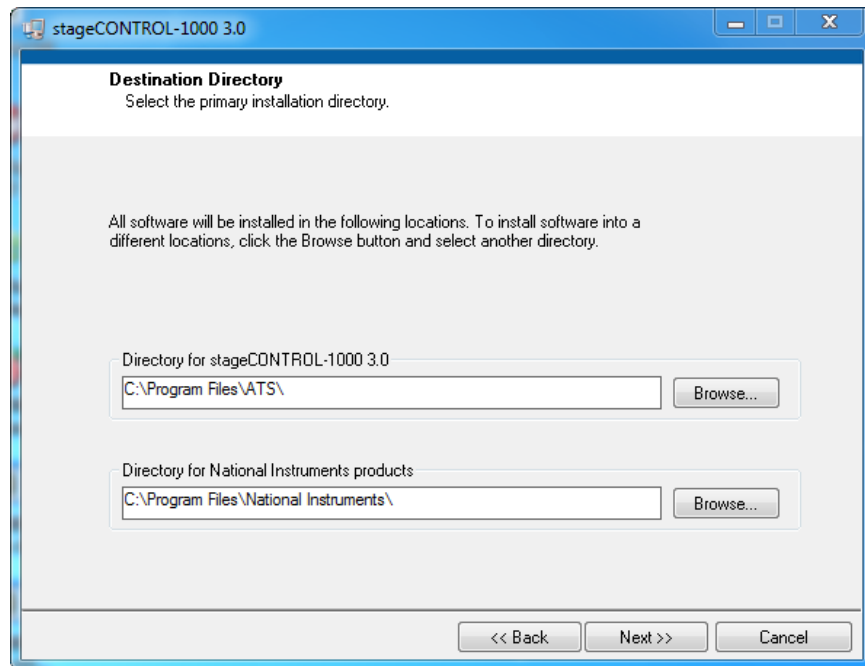

Figure 3 - Installation of stageCONTROL-1000
3. Select directory for the software, see Figure 3.